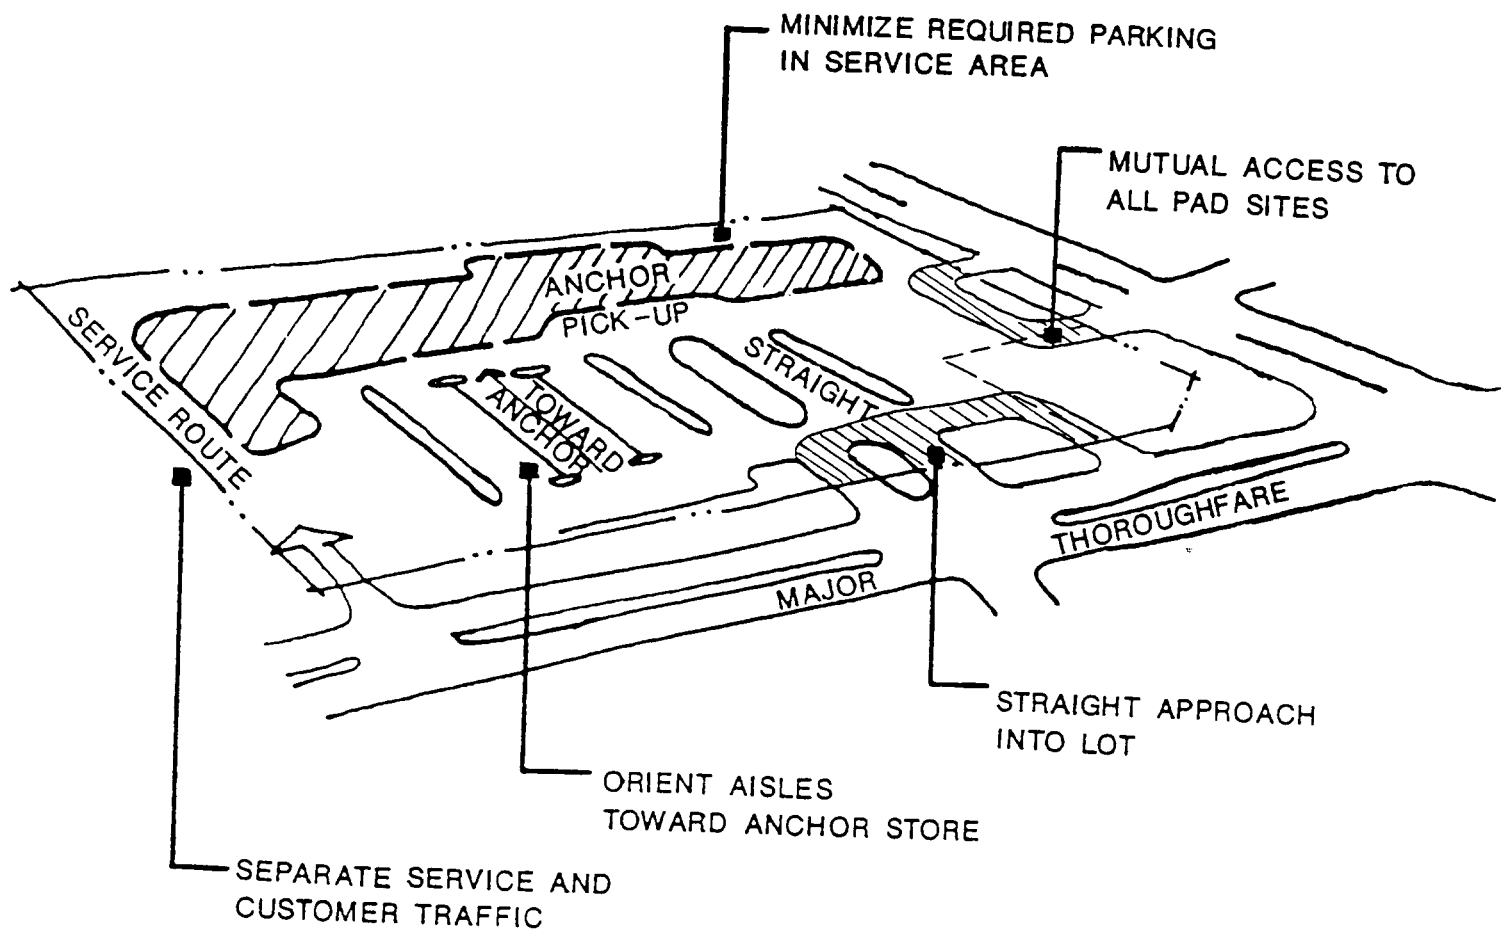

FIGURE 4
- Parking aisles should be oriented toward anchor stores to minimize the number of parking lanes crossed by pedestrians. (See Figure 4.)